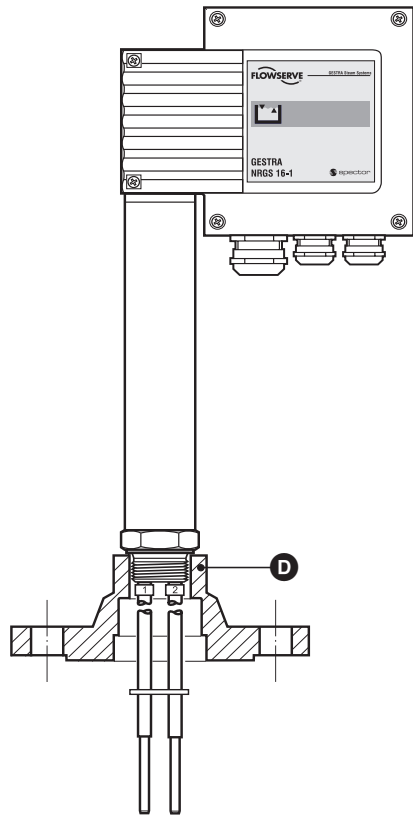

Fig. 4
10. Place blind flange with bore **D** together with level electrode onto connection standpipe and fix with bolts. Tighten bolts in diagonally opposite pairs. **Fig. 4**